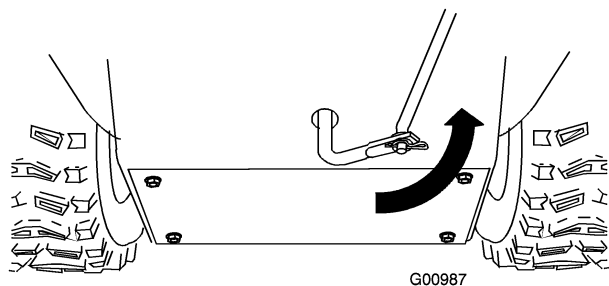

Figure 7
5. Rotate the lower link arm fully upward (counterclockwise) (Figure 7).